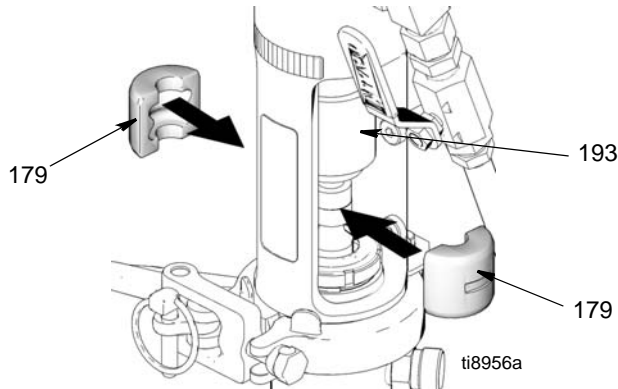

FIG. 24
- 5 (Fig. 24) Slide coupler cover (193) up to expose pump rod. Install rod couplers (179) over rod.